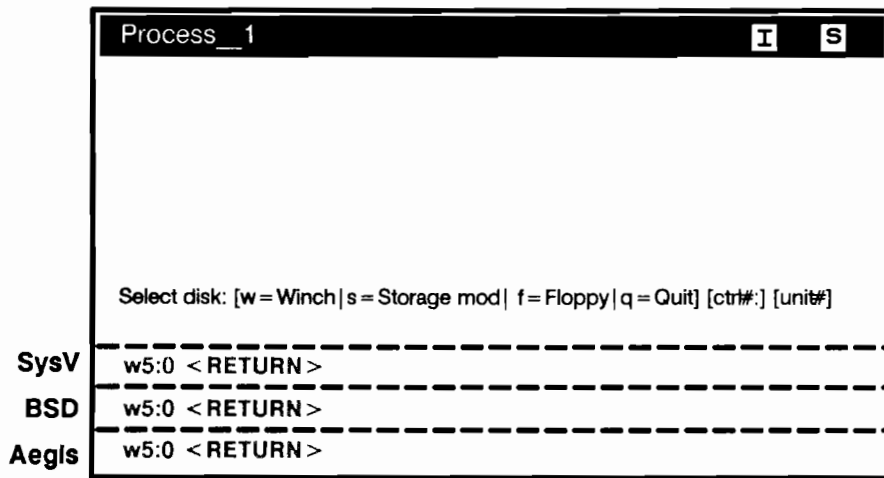

Figure 3-22. Specifying the Disk Drive Volume
4. The **invol** utility prompts for the identity of the disk drive volume to be initialized, as shown in Figure 3-22.